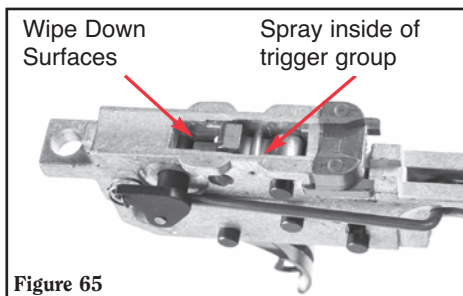

Figure 65A
1. Materials recommended: non-chlorinated parts cleaner, cotton swab or other soft pointed cleaning tool, an oil-type gun lubricant, and a synthetic grease-type lubricant such as Slip 2000® EWG or equivalent (see Figure 65A).